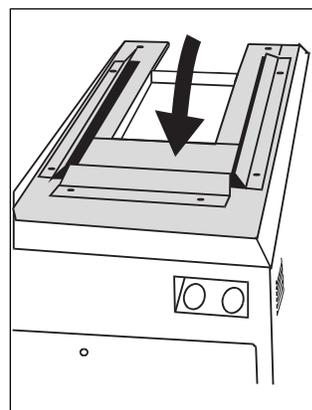

Figure 36. Rainguard Reinstallation
8. If installing an External Flue Terminal, re-install the rainguard (see Fig. 36).